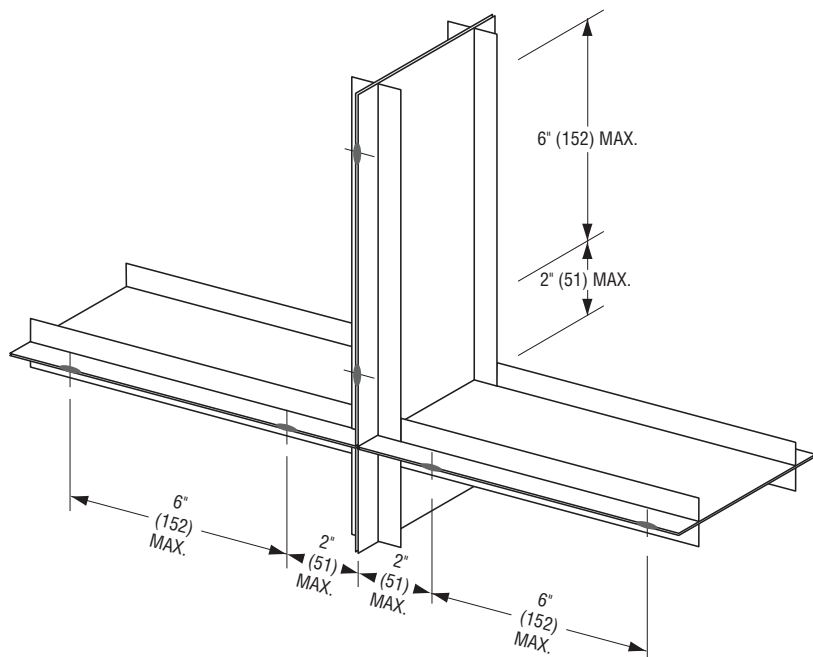

Figure 1.
8. Multiple Section Assemblies. Individual dampers may be joined together to make multiple section damper assemblies (see Figure 1). The frames shall be fastened together using 1/4" (6) long welds, 3/16" (4.76) steel rivets, 1/4" (6.35) bolts and nuts, #8 sheet metal screws or 3/16" (4.76) buttonloks on both sides of the damper at 6" (152) max. on center and 2" (51) max. from the corner of the damper on all 4 sides. The following additional requirements shall be met: